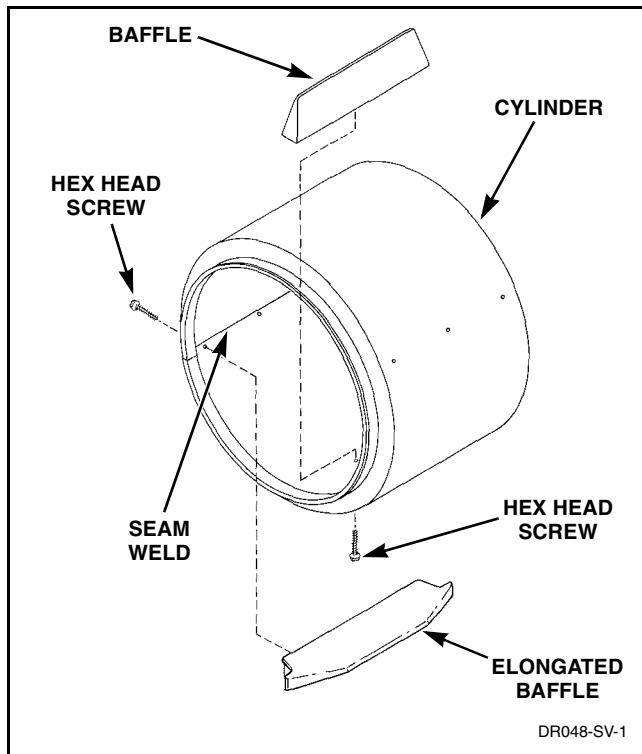

Figure 34
- (1) Remove screws holding baffles to cylinder. Refer to *Figure 34*.
IMPORTANT: On models using unpainted, corrosion resistant, coated steel cylinder, the elongated baffle must be installed to cover the cylinder seam weld. Refer to *Figure 34*.